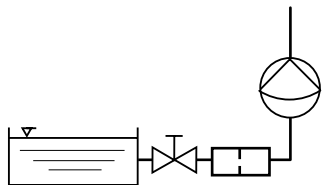

Fig. 6
- Measure the cross section and the length so that the vacuum generated by the suction does not reach the vapour pressure of the feed chemical (cavitation Fig. 6). If required, the pump delta® can be adapted to the situation via the METERING menu. Excessive vacuum on the intake side is indicated in extreme cases by an interrupted fluid column or incomplete return stroke.